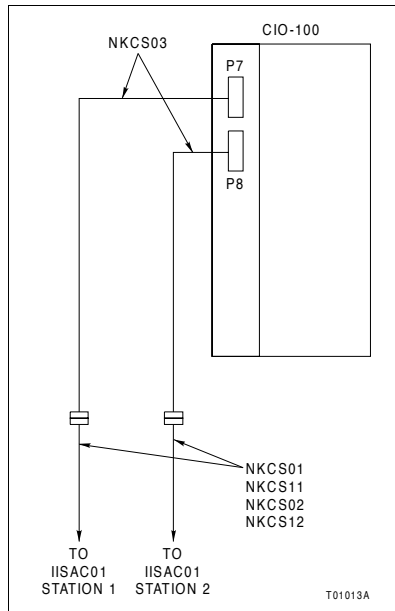
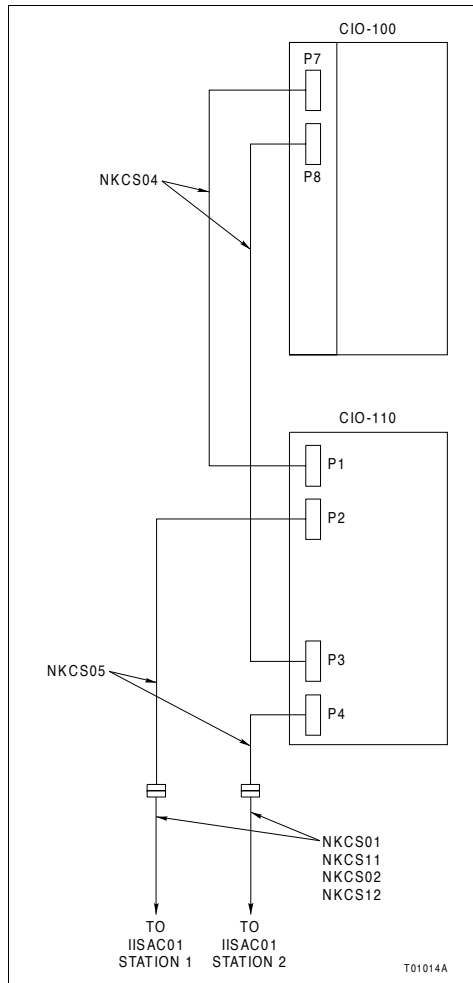

Figure PR17-2. Current Mode Bypass Cable Connection
Figure PR17-3. Electric Drive/Pulse Positioner Bypass Cable Connection
Figure PR17-2 shows the cabling required to connect an IISAC01 station that supports current mode bypass operation. Figure PR17-3 shows the cabling required to connect an IISAC01 station that supports electric drive/pulse positioner bypass operation.
- ☐ Make the necessary cable connections as shown in Figure PR17-2 or PR17-3.